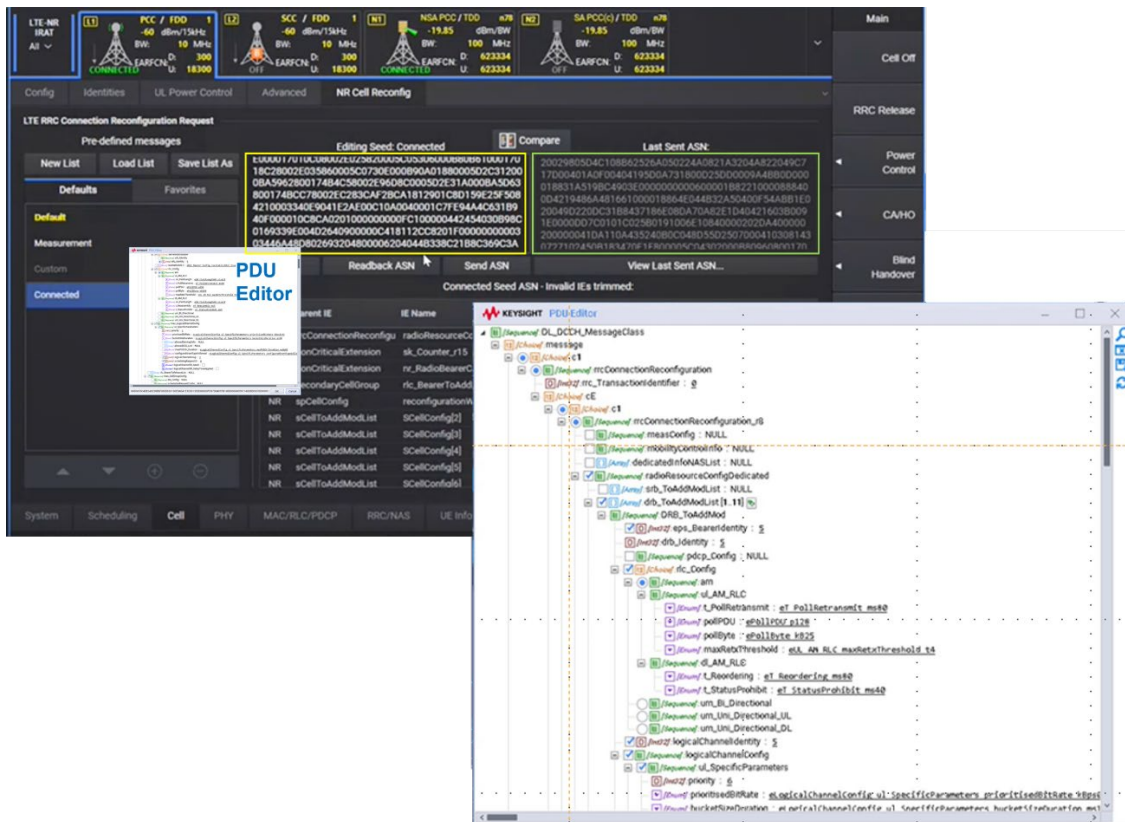

Figure 15. Modifying the 5G NR RRC reconfiguration using the PDU editor
- Tune RRC settings to enable interoperability at early stages (Figure 15)